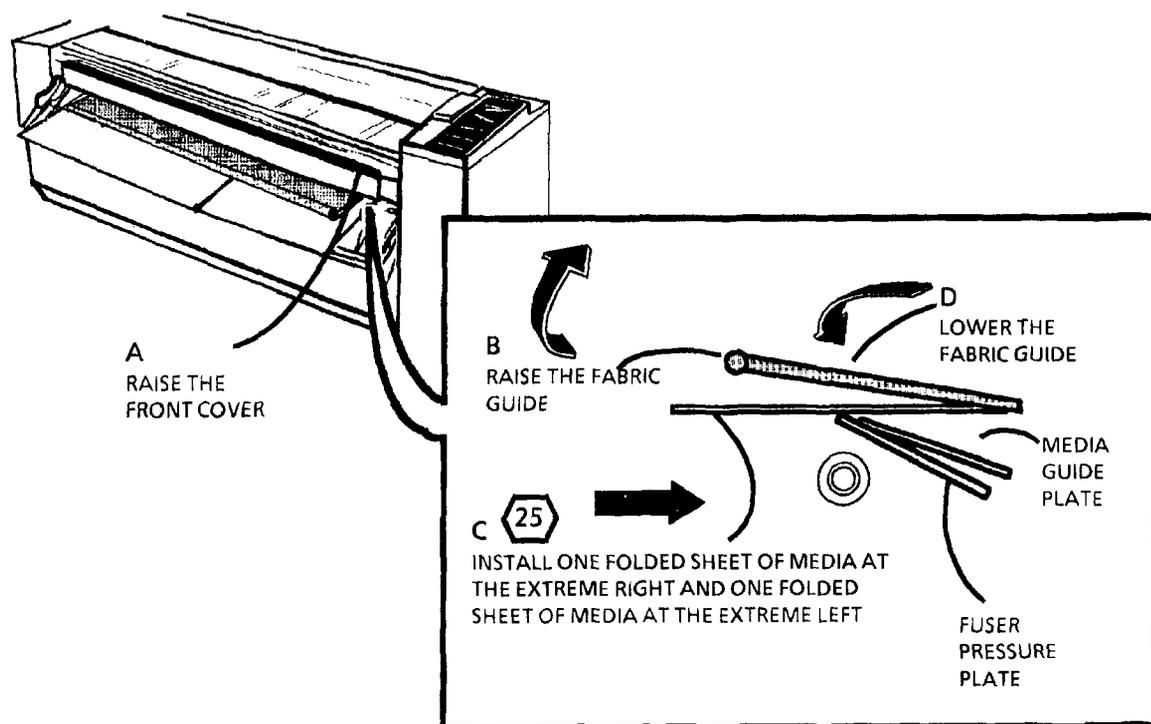

Figure 1. Installing the Media Under the Fabric Guide
3. (FIGURE 1) : INSTALL THE 2 SHEETS OF MEDIA UNDER THE FULL LENGTH OF THE FABRIC GUIDE, WITH THE SHEETS OVERLAPPING IN THE CENTER.